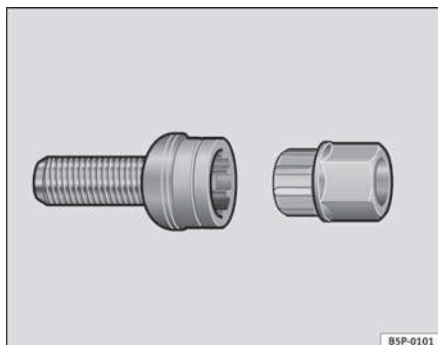

Fig. 170 Theft inhibiting wheel bolts
- Insert the adapter onto the wheel bolt and push it on as far as it will go ⇒ fig. 170.